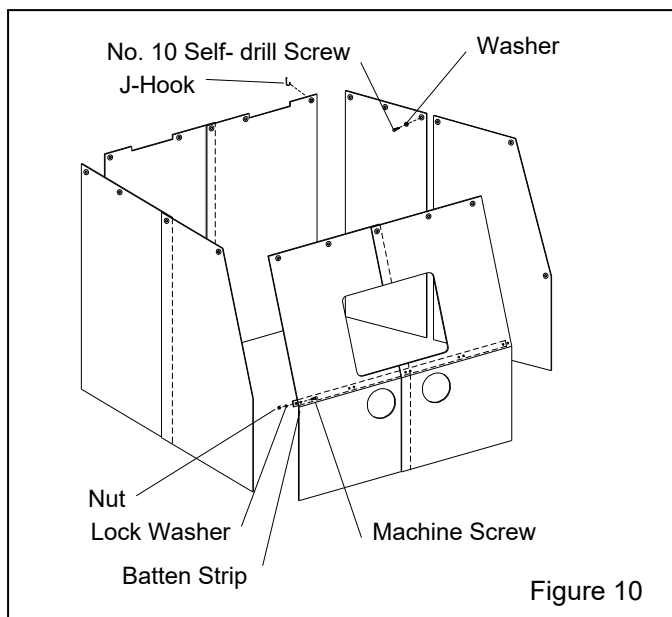

Figure 10
### 3.2 Cabinet Curtain Installation – Figure 10
**3.2.1** Match the curtains to the corresponding wall and door as shown in Figure 10. Hook the curtains to the J-Hooks welded along the top of the front, back, and side walls. Cut openings for the hoses on the lower left rear wall.
**3.2.3** For front walls, place the batten strip over the curtain, and clamp it in position on the front slope above the break as shown in Figure 10. Match drill .187" (3/16") diameter holes through the rubber and cabinet front at each batten hole. To install the batten insert #10-24 x 1" round head machine screws through the cabinet front, curtain and batten. Install lock washers and nuts from inside the cabinet and tighten securely.